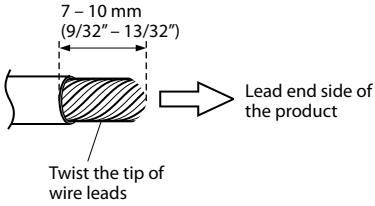

Fig. 5
- Remove the insulation from the ends of the wire leads by about 7 – 10 mm (9/32" – 13/32"). (Fig. 5)